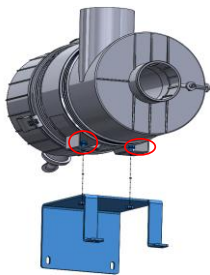

fig. 1
1. Fasten the Air Cleaner Bracket (4) onto the Air Cleaner Assembly (1) using two M8x1.25-30 bolts (6) as shown in figure 1.